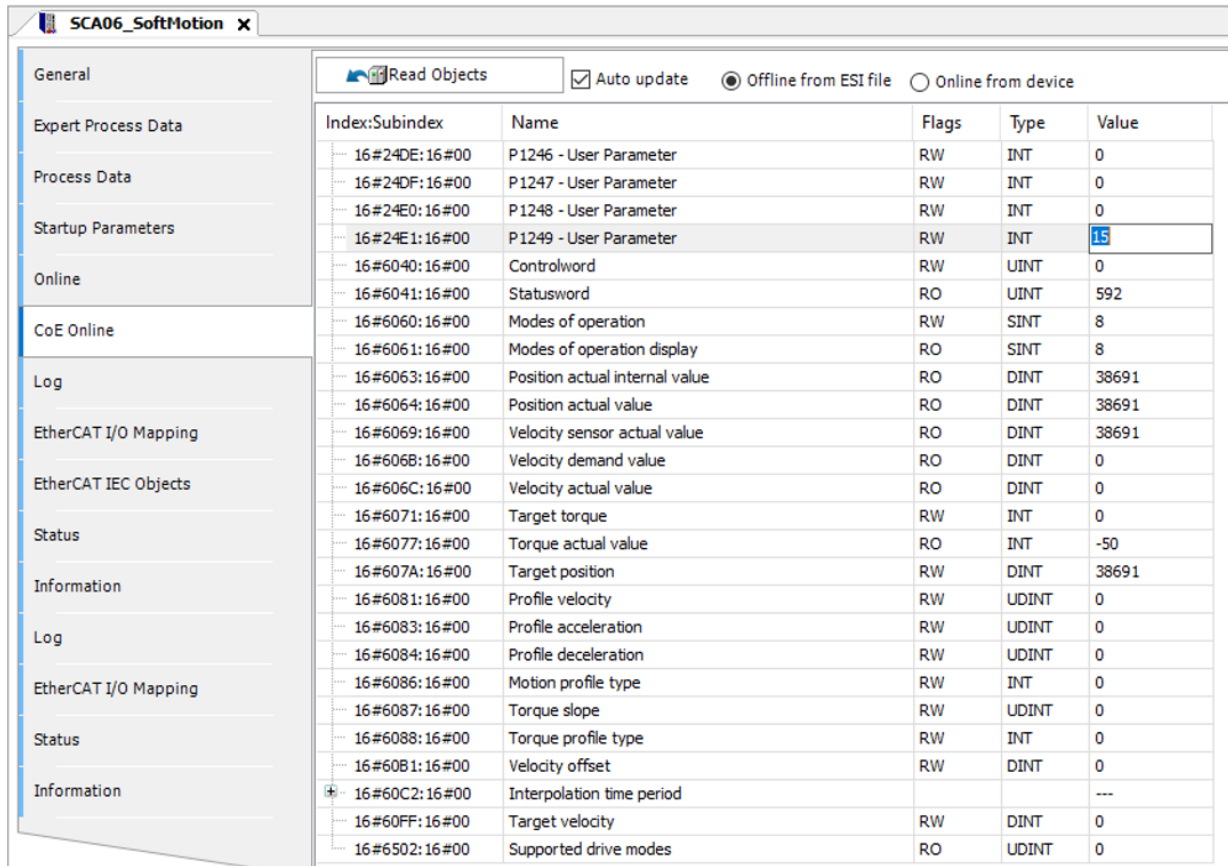

Figure 4.8: Editing parameters Online
- Find the **P1249 - User Parameter** in the list, double-click the **Value** field, enter **15** and press **Enter**, as shown in Figure 4.8.